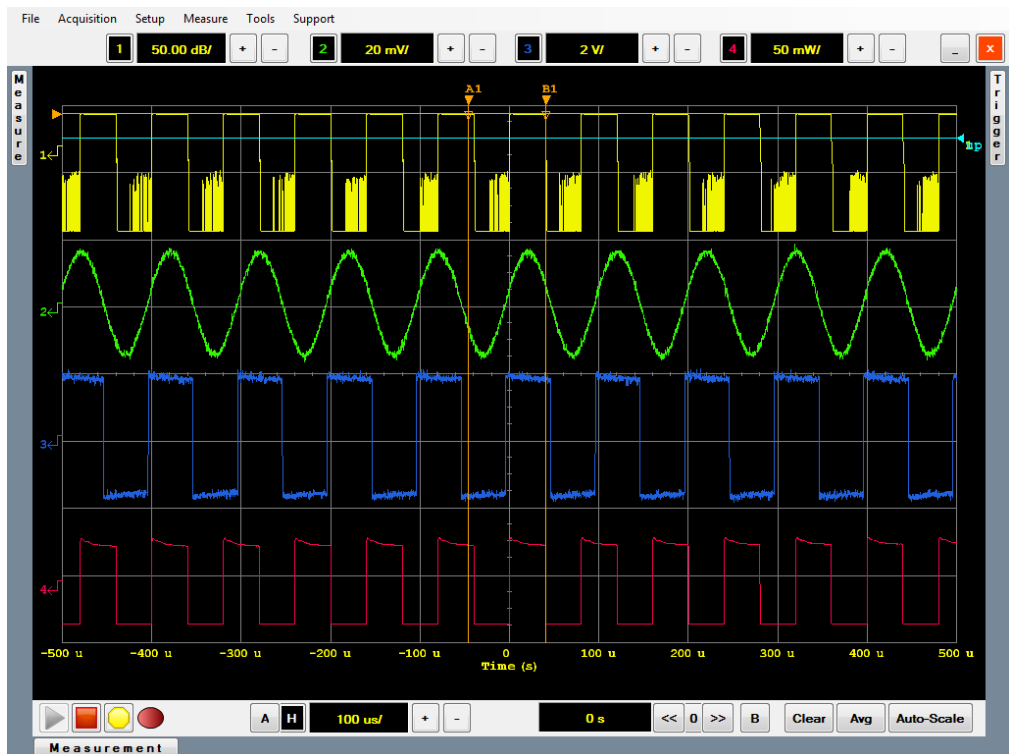

Figure 2-2 Display outlook with hidden menus and multi-purpose pane
- 2 The display outlook with the hidden menus and multi-purpose pane is as shown in Figure 2-2.